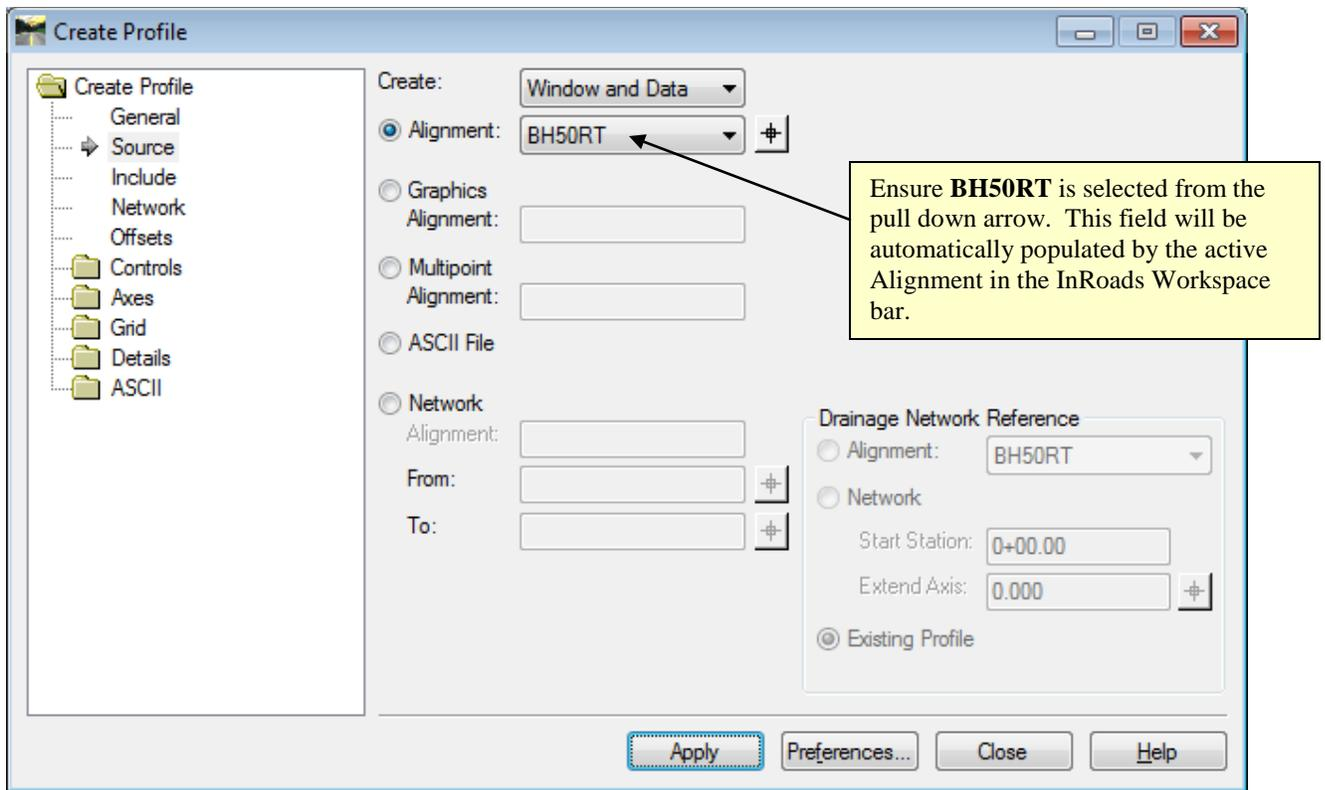

Figure L3-7 Create Profile
- In the **Create Profile** dialog, make the **Source** leaf the active leaf and match the settings shown in *Figure L3-7*.